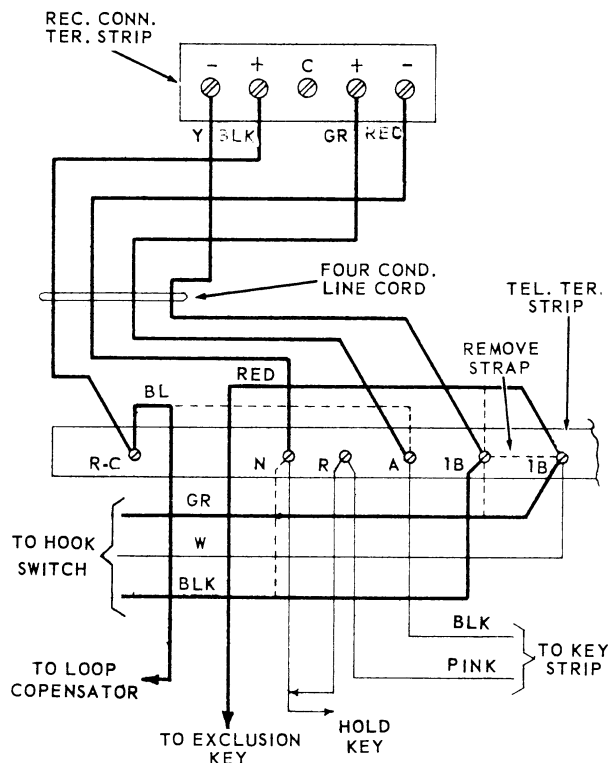

Fig. 5. 1A & 10A Modifications of Type 86 Key Telephone.
3.04 Clarification of lines in Figures 5 thru 9:
3.05 Modify the 86 telephone set with 1A and 10A wiring per Fig.5.